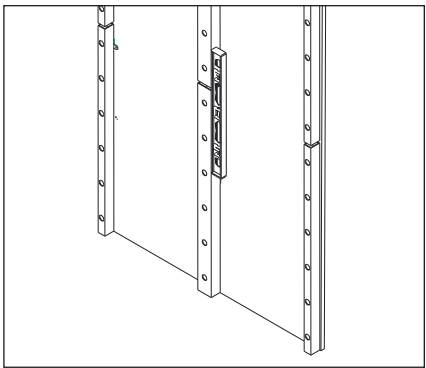

Figure 13: Install Second Row
9. Repeat **Steps 1-8** if additional rows of tubes are required. Space the tubes approximately $\frac{1}{2}$ " apart vertically. Refer to **Figure 13**. Tighten down the hardware and quality check the plumbness and flatness.